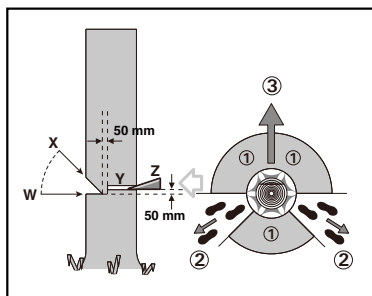

Figure 1
An escape path should be planned and cleared as necessary before cuts are started. The escape path should extend back and diagonally to the rear of the expected line of fall as illustrated in Figure 1.
Make the notch 1/3 the diameter of the tree, perpendicular to the direction of fall as illustrated in Figure 1. Make the lower horizontal notching cut (W) first. This will help to avoid pinching either the saw chain or the guide bar when the second notch (X) is being made.
Make the felling back cut (Y) at least 5 cm higher than the horizontal notching cut as illustrated in Figure 1. Keep the felling back cut parallel to the horizontal notching cut. Make the felling back cut so enough wood is left to act as a hinge. The hinge wood keeps the tree from twisting and falling in the wrong direction. Do not cut through the hinge. As the felling gets close to the hinge, the tree should begin to fall. If there is any chance that the tree may not fall in desired direction or it may rock back and bind the saw chain, stop cutting before the felling back cut is complete and use wedges of wood, plastic or aluminum (Z) to open the cut and drop the tree along the desired line of fall (❸). When the tree begins to fall remove the chainsaw from the cut, stop the motor, put the chainsaw down, then use the retreat path planned (❷). Be alert for overhead limbs falling and watch your footing. (See Figure 1.)